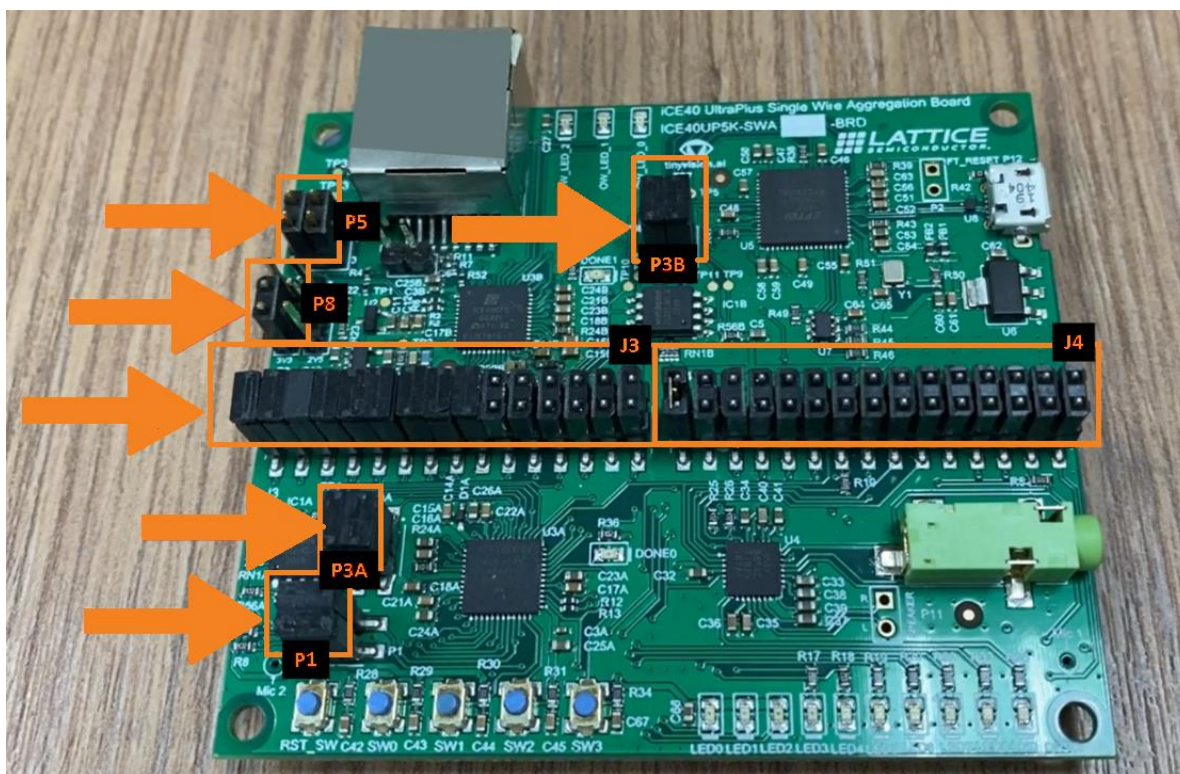

Figure 8.7. SWA Demo Port Connection
1. Ensure Jumper Connection on the SWA Board, as shown in Figure 8.7.